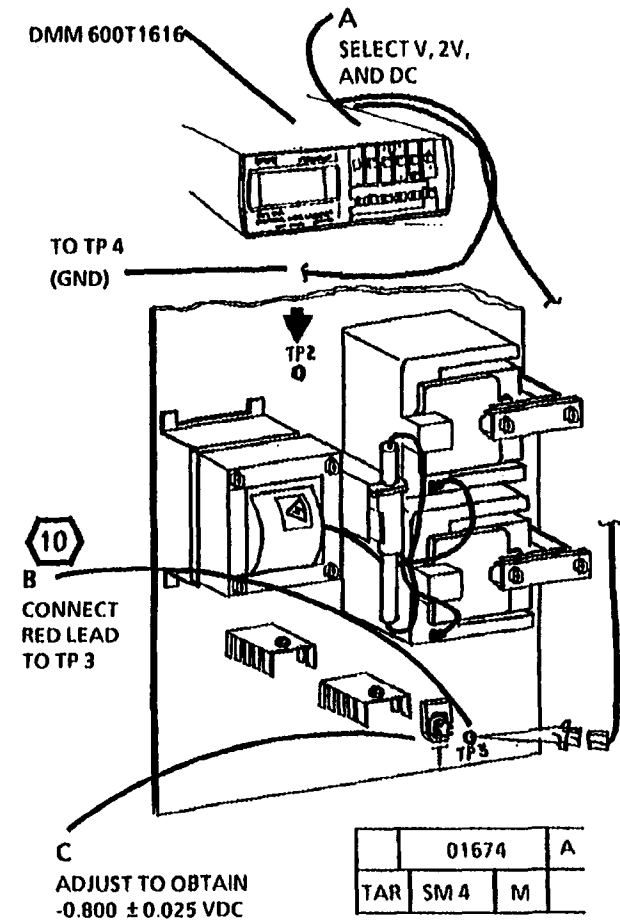

Figure 5. Adjust the Transfer Corotron (Continued)
12. (Figure 5): Adjust the transfer corotron voltage.